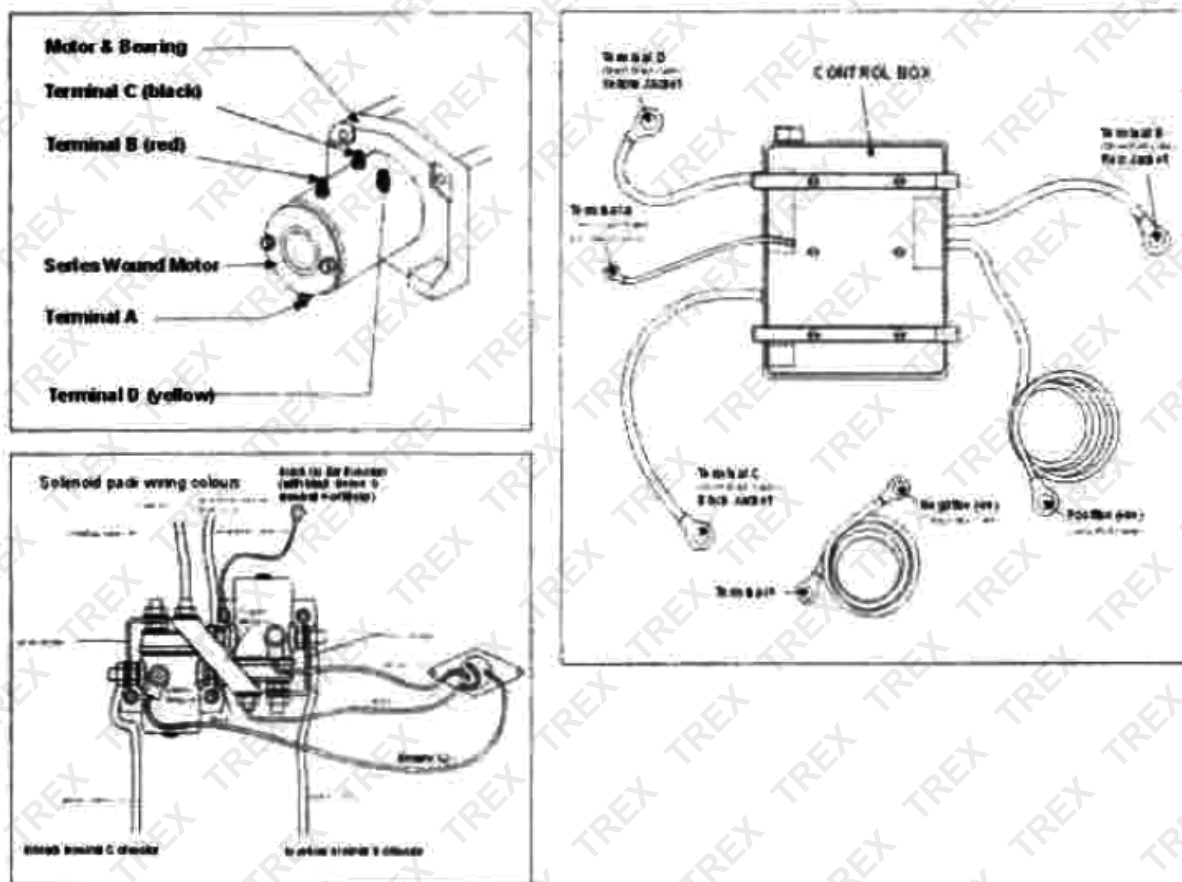

Figure 1
Pay close attention to proper electrical cable connections as follows (refer to Figure 1). Short red cable (B') connecting to the red terminal (B) of the motor. Short black cable with yellow jacket (C') connecting to the yellow terminal (C) of the motor. Thin black cable (A') connecting to the bottom terminal (A) of the motor. Long black cable (1.8m), one terminal (A') connecting to the bottom terminal (A) of the motor, and the other terminal negative (-) connecting to the negative (-) terminal of the battery. Long red cable positive (+) to positive (+) terminal of the battery.